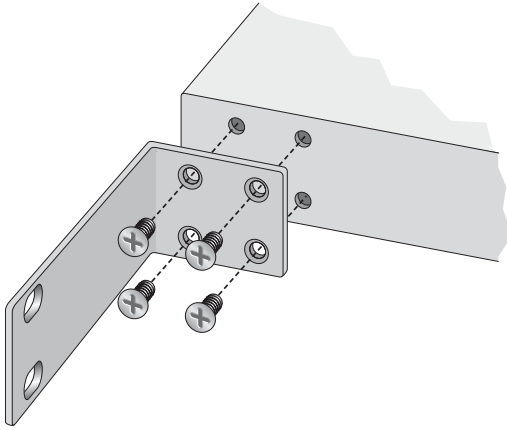

Figure 10 Attaching the Rackmounting Brackets to the Switch
2. Attach the rackmounting brackets to each side of the switch using the screws provided. See Figure 10.